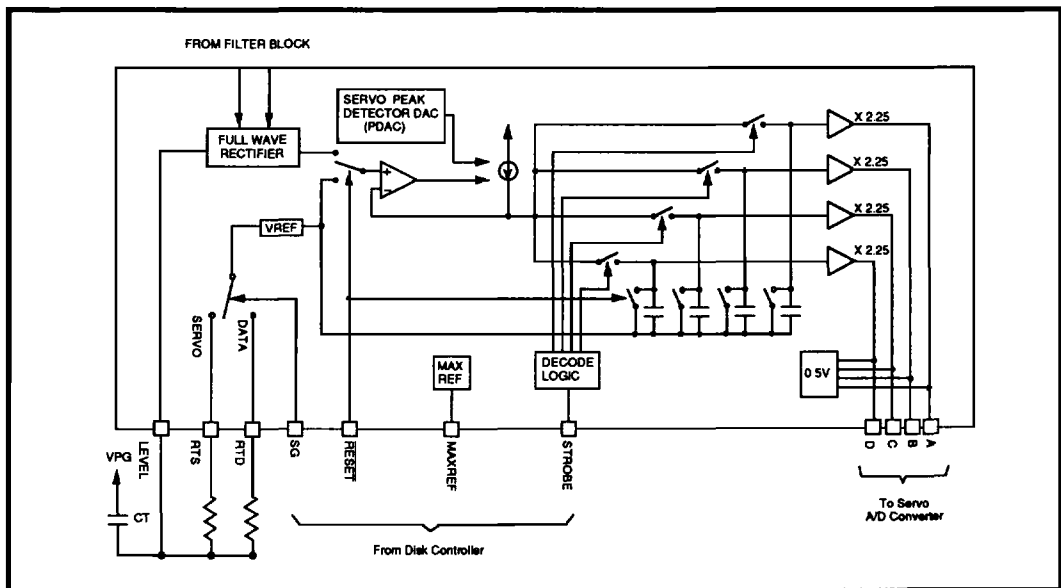

FIGURE 6: 32P4742/4742A Servo Capture
The 32P4742/4742A servo sections capture four separate servo bursts and provide A, B, C, and D burst outputs, Figure 6. Internal burst hold capacitors are provided to support low leakage burst capture and reduce external component count. To support embedded servo applications, the 32P4742/4742A provides additional programming registers that set the filter cutoff frequency (f_c) and the hysteresis threshold level (V_{TH}) for servo mode. The programmable functions are switched automatically when the servo gate (SG) is asserted, reducing the transition time between mode changes. When SG is activated or deactivated there is a nominal 0.3 μs settling time for the internal DACs to recover from the register switching.